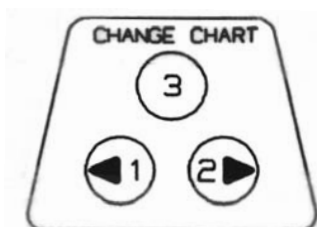

Figure 6: Push Buttons
When the unit is first powered on, the pen arm(s) will move off of the chart and then move back onto the chart briefly stopping at the outer most temperature graduation ring of the chart paper. If the pen does not stop exactly at this location on the chart, it can be adjusted or "calibrated" by using the left (#1) or right (#2) arrow buttons (refer to Figure 6). When the pen moves back onto the chart and briefly stops, you will have approximately five seconds in which to adjust the pen's position using the left and right arrow buttons of Figure 6.
The pen arm will then move to the first control point position and the green LED will turn off. The pen will remain at this position for a period of approximately five seconds during which time high-alarm point can be adjusted using the left arrow (#1) or the right arrow (#2) push buttons. Refer to Figure 6 for a diagram of the pushbuttons. When the time has expired for adjusting the high alarm point, the green LED will turn back on and move to the low alarm point. The pen will remain at this position for a period of approximately five seconds during which time the low alarm point can be adjusted using the left arrow (#1) or the right arrow (#2) push buttons. The LED will turn solid green and the pen arm will move to indicate the probe's temperature and the unit will begin recording.
To select from the ranges available, press and hold the “change chart” button (#3) while in normal operating mode, until the pen arm begins to move off the chart. Once the pen has moved off the chart, press and hold the left arrow (#1) or right arrow (#2) button for approximately five (5) seconds and then release the button. Refer to Figure 6.